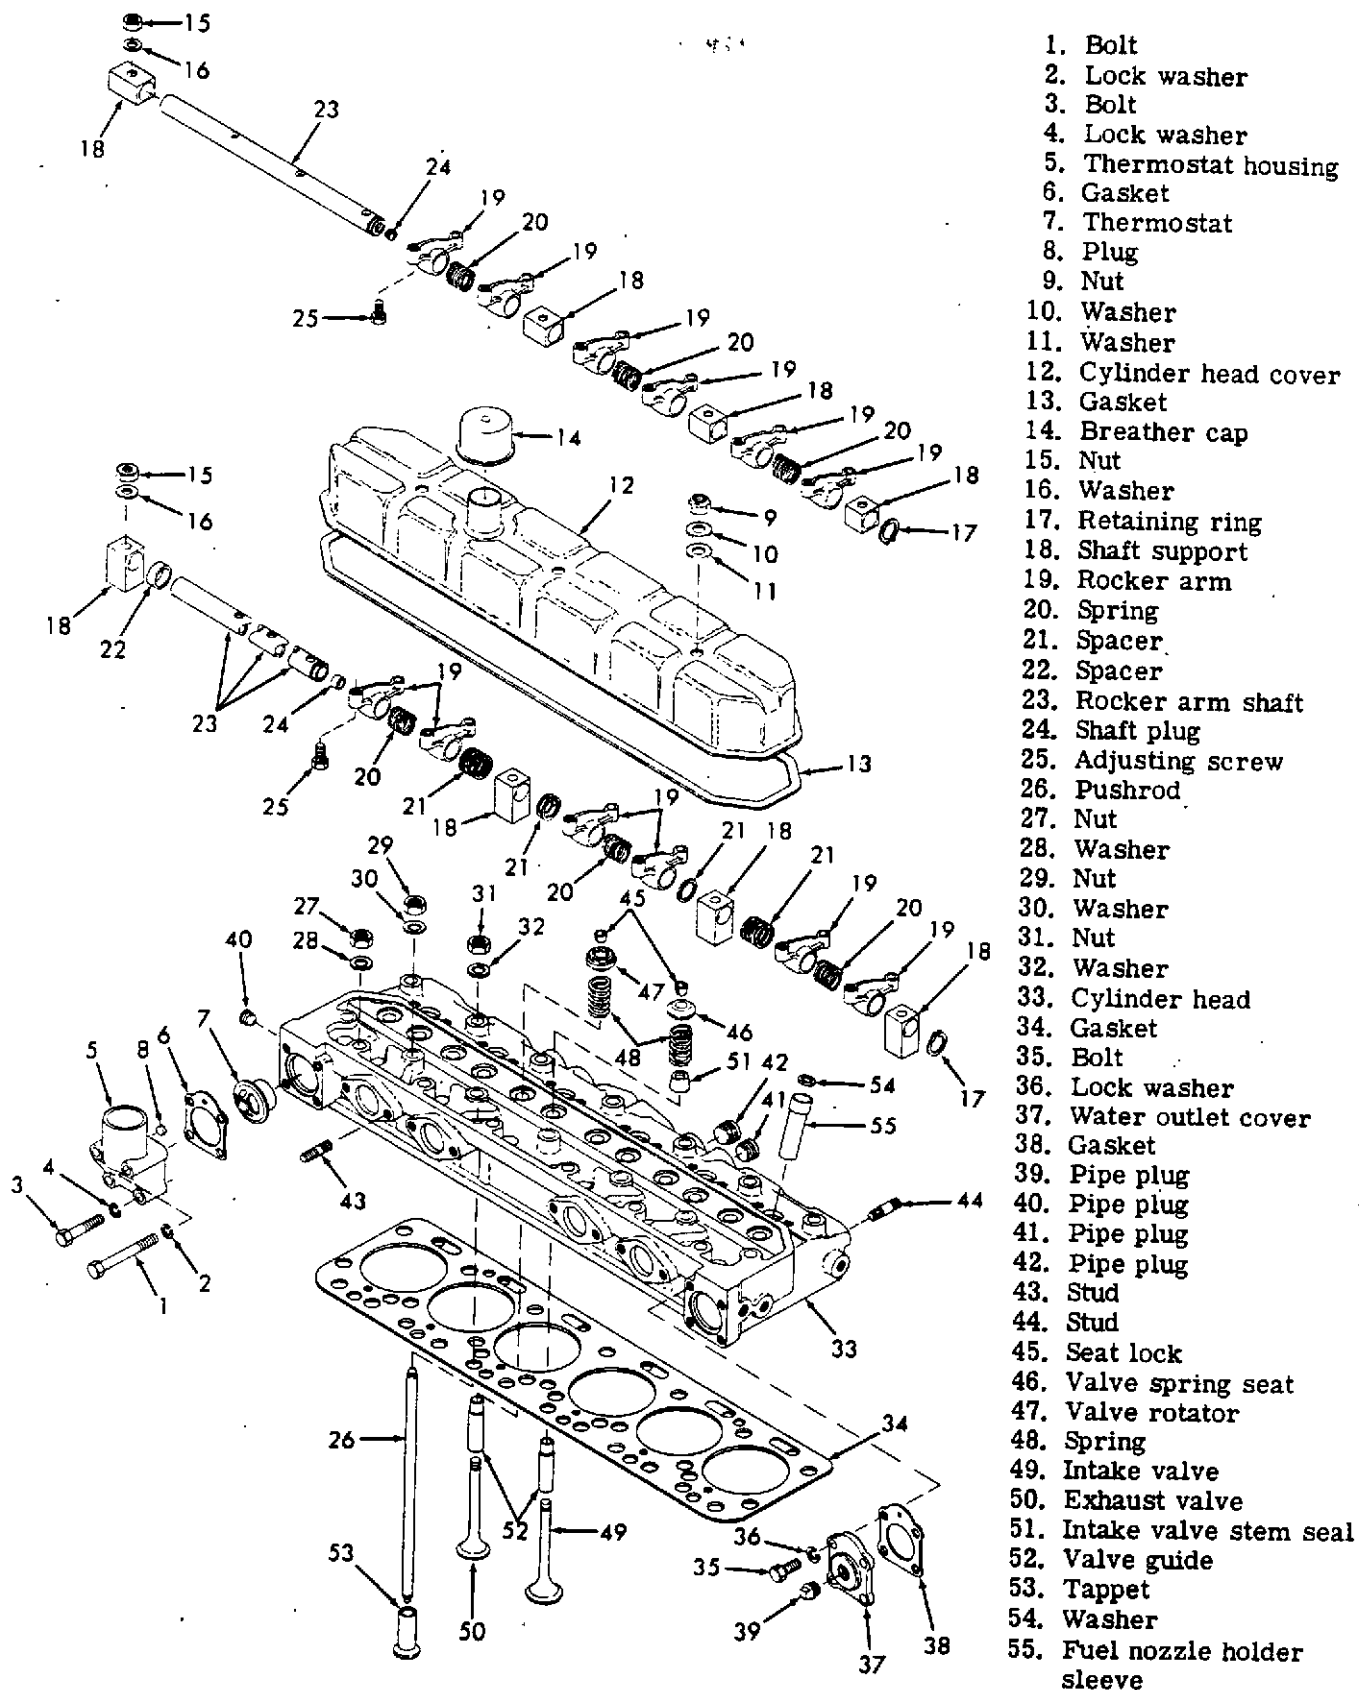
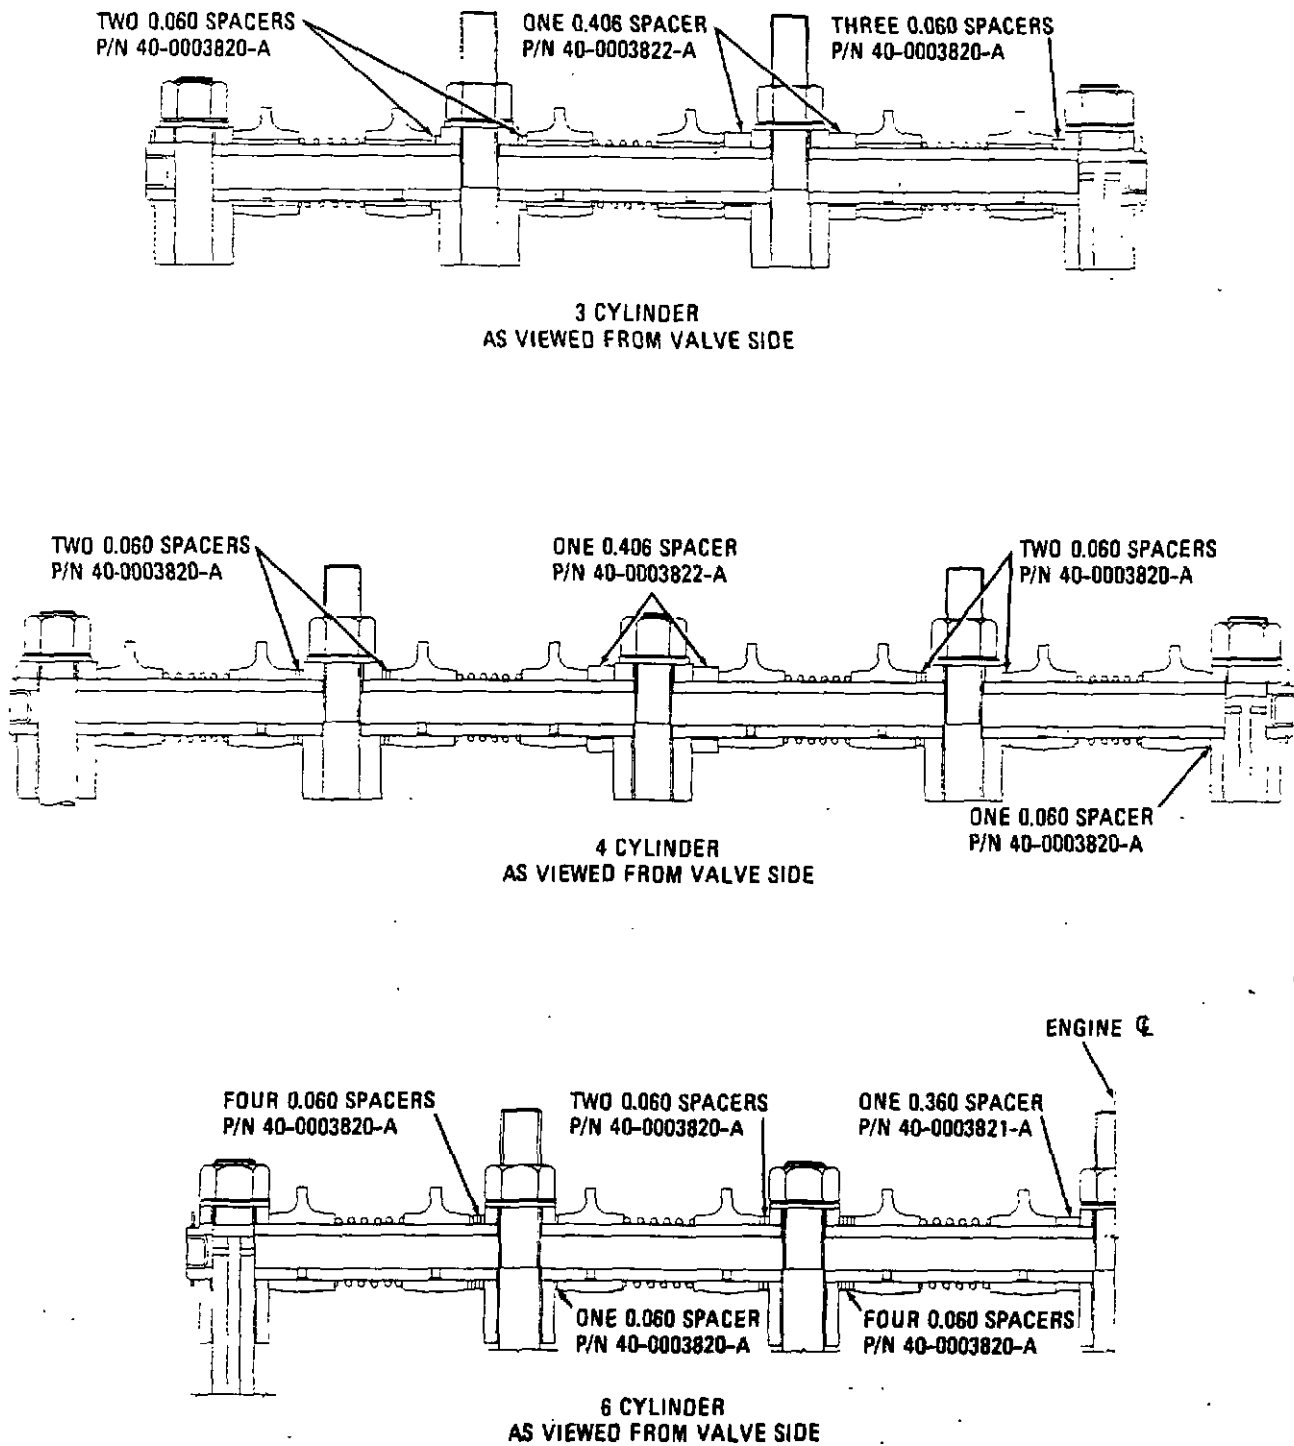
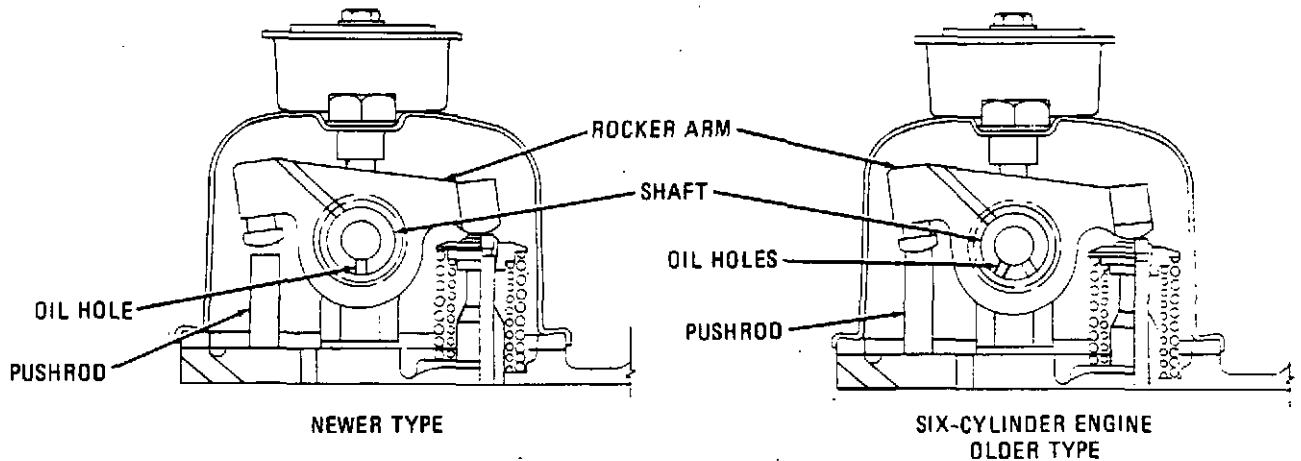
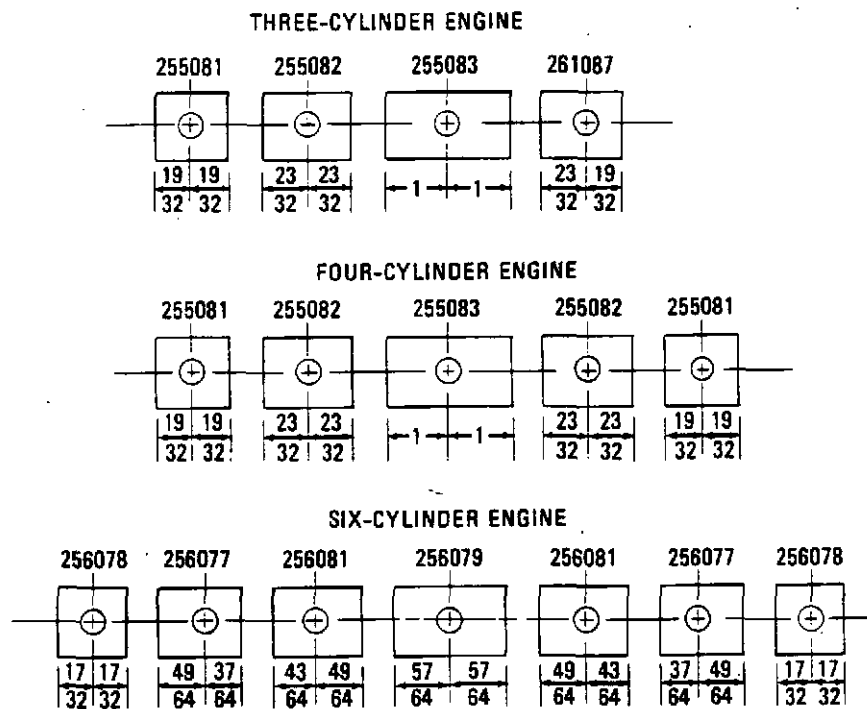

Figure 5-16. Rocker Arm, Cylinder Head, and Valve Assemblies, Exploded View
Figure 5-17. Rocker Arm Shaft Showing Spacer Position for Engines Having Identically Sized Shaft Supports
Figure 5-18. Rocker Arm Shaft Showing Oil Hole Positions
Figure 5-19. Rocker Arm Shaft Support Installation for Engines Having Variable Sized Supports
1. Remove the cylinder head cover (12, figure 5-16) and gasket (13) by removing the nuts (9) and washers (10 and 11) securing it to the cylinder head (33).
2. Remove the nuts (15) and washers (16) that secure the rocker arm assembly to the cylinder head. On six-cylinder engines, the rocker arm shaft is in two sections. When removing rocker arms from six-cylinder engines, it is suggested that a wire be used between the No. 1 and No. 12 rear rocker arms to hold the two shaft assemblies together and prevent accidental disassembly of the rocker arms. Carefully lift the complete assembly from the cylinder head.
3. Disassemble the rocker arm assembly by removing the retaining rings (17) from the shaft ends. Slide the shaft supports (18), rocker arms (19), spacing springs (20), and spacers (21 and 22) from the rocker arm shaft (23).
1. Coat the rocker arm shaft (23) lightly with clean lubricating oil. Slide the shaft supports (18), rocker arms (19), spacing springs (20), and spacers (21 and 22) onto the rocker arm shaft. Install the spacers on the shaft of engine models that use them, as indicated in figure 5-17. On the three- and four-cylinder engines, make certain that the oil holes in the shaft face downward and toward the camshaft side of the engine, as shown in figure 5-18. On older type D Series engines, there are two oil holes for each rocker arm and they must face downward as shown in figure 5-18. Newer type rocker arms shown on figure 5-17 have only one mounting hole which must be assembled downward. On older D Series engines, the shaft supports (18, figure 5-16) vary in size and mounting hole location and must be assembled exactly as shown in figure 5-19. Install the retaining rings (17, figure 5-16) on each end of the rocker arm shaft.
3. Install the rocker arm assembly over the cylinder head stud extensions and seat it firmly on the cylinder head. Make certain the rocker arm adjusting screws (25, figure 5-16) are positioned over the pushrods (26). Secure the rocker arm assembly to the cylinder head with nuts (15) and washers (16).
6. Install the cylinder head cover (12) and new gasket (13) and secure to cylinder head with nuts (9) and washers (10 and 11).
6. Lift out the pushrods (26, figure 5-16).
7. Remove the cylinder head nuts (27, 29, and 31) and washers (28, 30, and 32); lift the cylinder head (33) and gasket (34) from the engine. It may be necessary to tap the head lightly with a soft hammer to loosen it. Do not pry on the contact surfaces.
8. Remove the water outlet cover (37) and gasket (38) by removing four bolts (35) and lock washers (36).
10. Do not remove plugs (40, 41, and 42), studs (43 and 44), or fuel nozzle holder sleeves (55) unless they are damaged and require replacement.
3. Install water outlet cover (37, figure 5-16) and gasket (38) on cylinder head and secure with bolts (35) and lock washers (36).
2. With a clamp-type valve spring compressor, compress the valve springs (48, figure 5-16) and remove the valve spring seat locks (45).
3. Remove the valve springs (48), seats (46), and valve rotators (47); lift out the valves (49 and 50). Place valves in order in a rack, with holes numbered for both intake and exhaust valves so that the valves can be installed in their respective places at reassembly.
4. Remove the intake valve stem seals (51) from the valve guides.
2. Insert the intake valve stem seals (51, figure 5-16) over the ends on the intake valves (49) and secure firmly on the exposed ends of the valve guides (52).
3. Install the valve springs (48), spring seats (46), and exhaust valve rotators (47) on the valve stems. Using a valve spring compressor, compress the valve springs and install the valve locks (45).